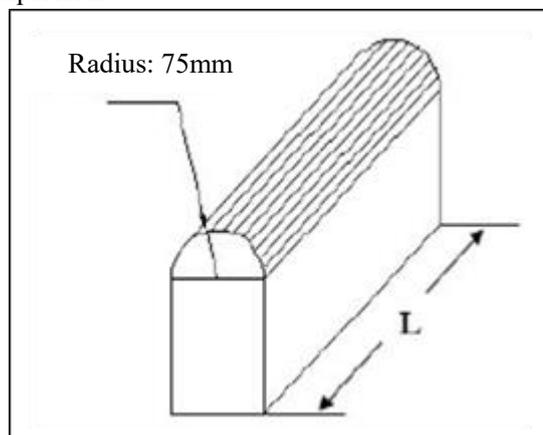

图3 夹具安装示意图 Extruded plate diagram
- b) 挤压板形式: 半径 75mm 的半圆柱体, 半圆柱体的长度 (L) 大于被挤压电池单体的尺寸 (参考图 3 所示);
- b) The form of extruded plate: a semi cylinder with a radius of 75mm, and the length (L) of the semi cylinder is larger than the size of the cell (see the figure 3);